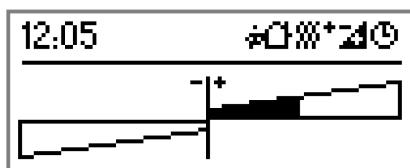

Figure 58: Example of a 2-area display with basic setpoint shifting as a bar graph
- i In the display function "Setpoint shift as bar graph" (Figure 58) it is not possible to configure any supplementary texts.
With relative setpoint presetting, the push button sensor allows step-by-step shifting of the setpoint temperature within defined limits. This setpoint shift can be performed either using the display buttons (see page 17-18) or using controller extensions in the positive (+) or also in the negative (-) direction. Whether a basic setpoint shift has been performed (i.e. the shift is not equal to "0") in the 2-area display is indicated using the symbol. Optionally it is possible to display the setpoint shift in the form of a bar graph (Figure 58). In this case the bar graph accounts for the entire menu area, which means that other display functions can no longer be displayed in this display area.